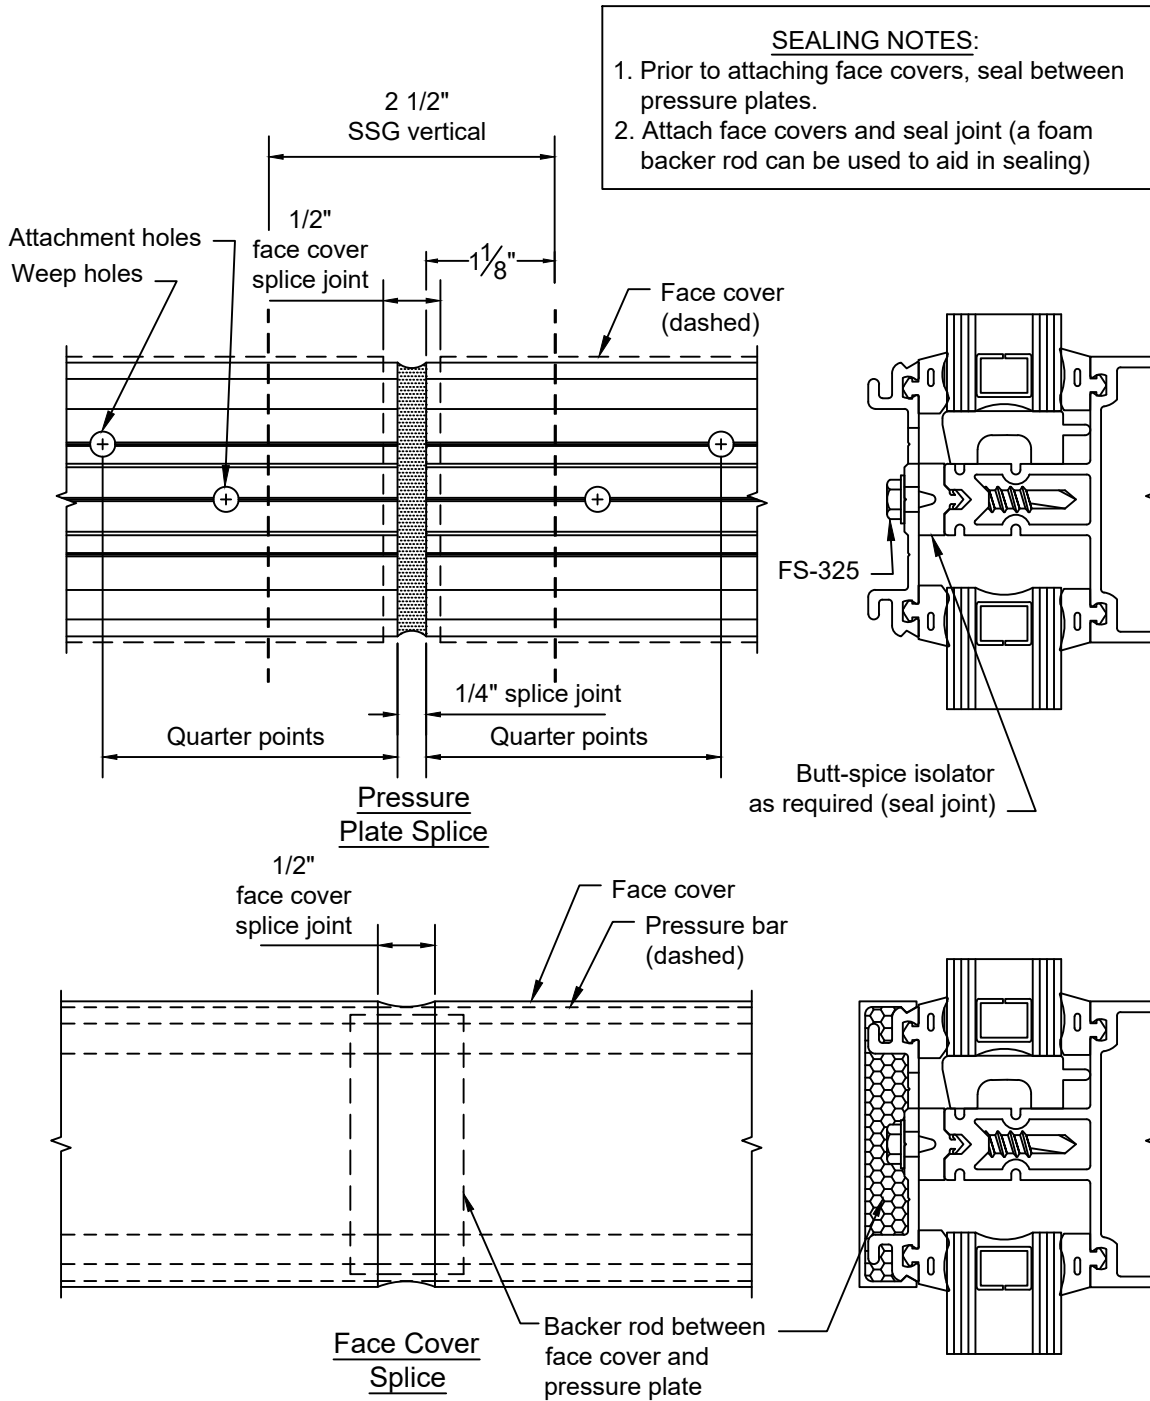

FIGURE 30
- 3.11 After removing any temporary retainers at the horizontals, center horizontal pressure plates in opening, leaving a 1/8" gap on each end. Make sure the weep holes are on the top side of pressure plate. **NOTE: Horizontal pressure plates and face covers run continuous over SSG mullions, not to exceed 3 lites in length. SEE FIGURE 30, page 31 for splicing and sealing instructions.**
- 3.21 After removing horizontal temporary retainers, locate pressure plates and face covers to run continuous over SSG Mullions. Pressure plate and face covers are not to exceed 3 lites in length. Splice pressure plate and face covers at SSG mullion center line per **FIGURE 30**.